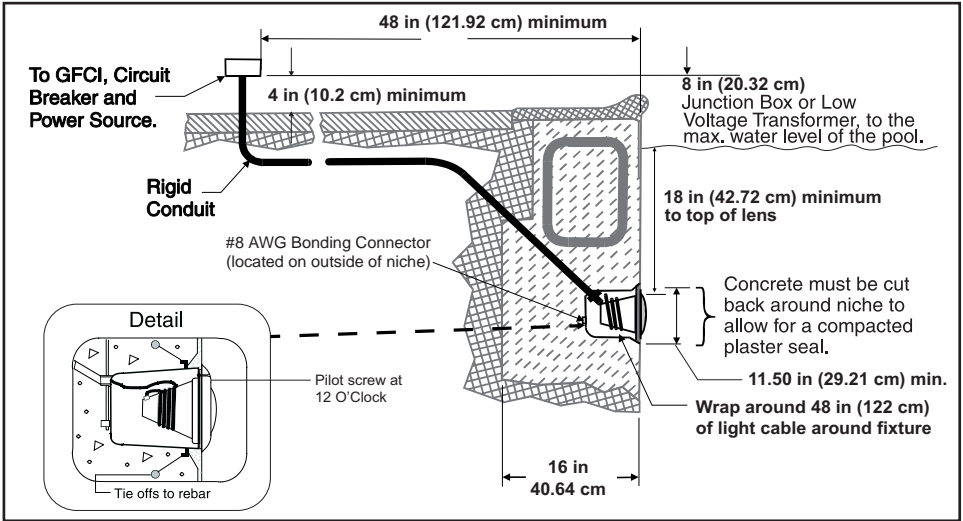
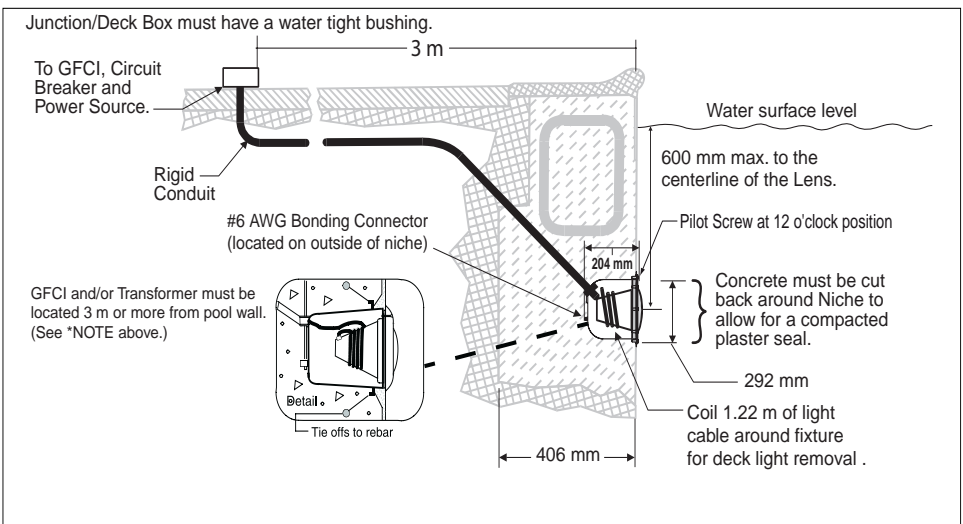

Figure 3, USA.
Figure 4, Canada.
- **The Junction Box:** For 12 volt models only, the low voltage step-down transformer shall be located at least 8 in (20.3 cm) above the maximum water line and at least 4 in (10.2 cm) above the ground level or pool deck whichever provides the greater elevation. The junction box shall be no less than 4 ft (1.22 m) from the inside wall of the pool, unless separated from the pool by a solid fence, wall or other permanent barrier. See Figure 3 on page 9.
- Bond the niche-fixture housing to all other metallic items within 5 ft (1.53 m) of the pool, using a No. 8 AWG bond wire. The Bond connection is located at the rear of the niche, see Figure 3 on page 9.
- The wet niche is properly installed so the top edge of the underwater light's lens is at least 18 inches (45.7 cm) below the surface of the water in the pool, see Figure 3 on page 9. Also, the face ring PILOT SCREW must be at the 12 o'clock position.
- If non-metallic conduit is used, a No. 8 AWG bonding/grounding wire must be installed through the conduit from the Junction Box to the bonding/grounding lug inside the niche. Seal the wire/lug connection with a listed sealant to protect the connection from possible pool water corrosion. See Figure 3 on page 9.
6. Leave at least 4 ft (1.2 m) of cord to coil around the light fixture; see Figure 3 on page 9. This allows the light to be serviced on the deck after the pool is filled with water.
- The Junction Box (or, for 12 volt models, the low voltage transformer) shall be located at least 8 in (20.3 cm) above the maximum water line and at least four 4 in (10.2 cm) above the ground level or pool deck whichever provides the greater elevation. The junction box shall be no less than 4 ft (1.22 m) from the inside wall of the pool, unless separated from the pool by a solid fence, wall or other permanent barrier. See Figure 3 on page 9.
- The wet niche is properly installed so the top edge of the underwater light's lens is at least 18 in (45.7 cm) below the surface of the water in the pool, see Figure 3 on page 9. Also, the face ring PILOT SCREW must be at the 12 o'clock position.
- The niche must be properly installed so the pilot screw hole is at the 12 o'clock position and that the center line of the Underwater Light's lens is at a maximum depth of 600 mm below the surface of the water in the pool, see Figure 4 on page 9.
- If non-metallic conduit is used, a No. 8 AWG bonding/grounding wire must be installed through the conduit from the Junction Box to the bonding/grounding lug inside the niche. Seal the wire/lug connection with a listed sealant to protect the connection from possible pool water corrosion. See Figure 4 on page 9.
Route light cable through conduit to Junction Box, leaving at least 4 ft (1.22 m) of cable at the light fixture to coil around the light (this allows the light to be serviced on the deck after the pool is filled with water). See Figure 3 (USA), and Figure 4, (Canada) below.